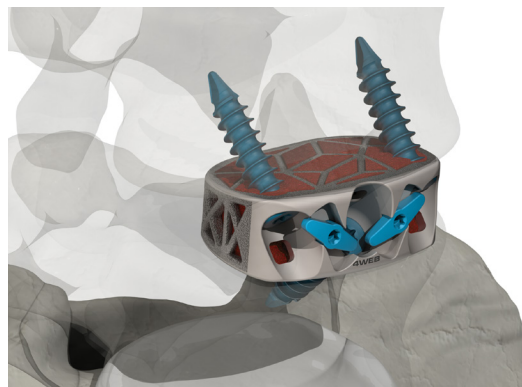

Figure 15
- ▲ Inspect implant for correct position and assembly and confirm with fluoroscopy (Fig. 15).